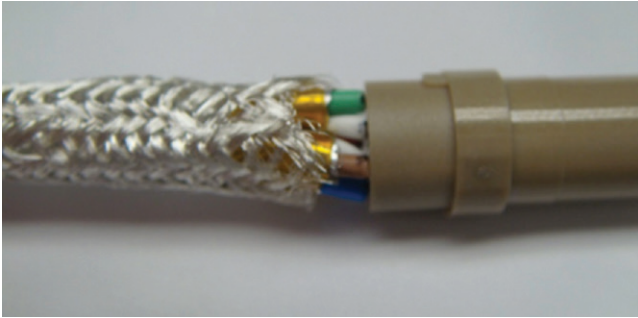

Figure 38: Replacing the braid
13. Slide the braid back toward the insulator, and trim the braid so that its end is even with or slightly covers the tape on the foil (Figure 38).